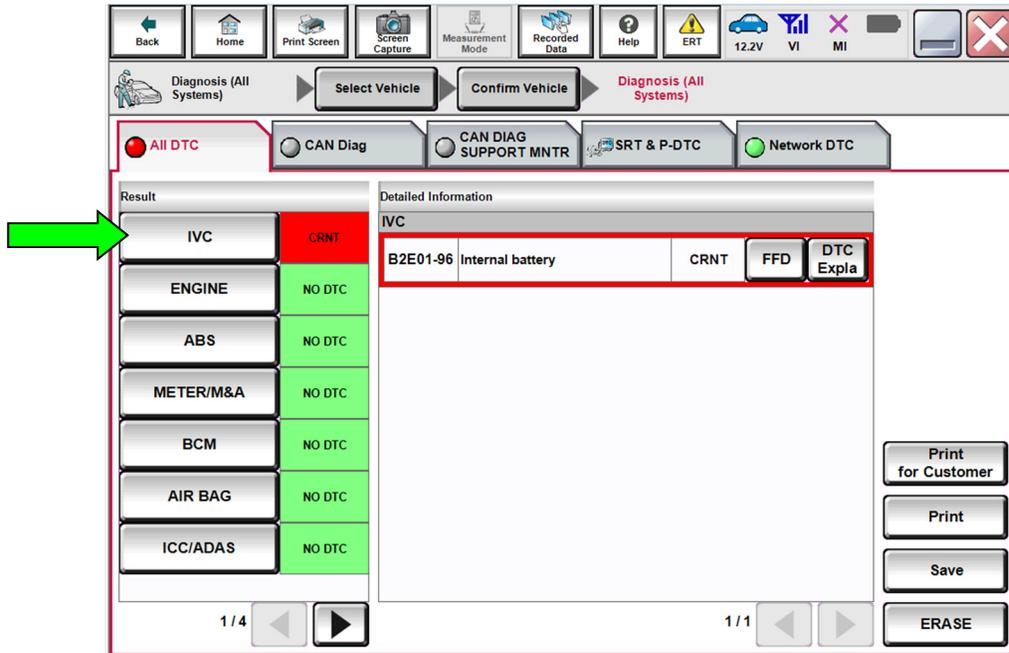

Figure 3
- If only DTC B2E01-96 is present, select **IVC** (Figure 3) and then proceed to step 12.